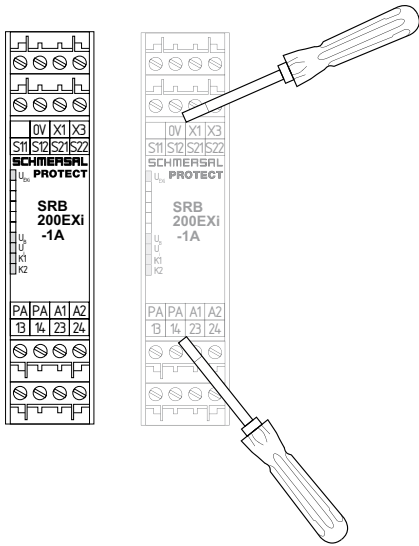

Fig. 3
**Opening the front cover (see Fig. 3)**